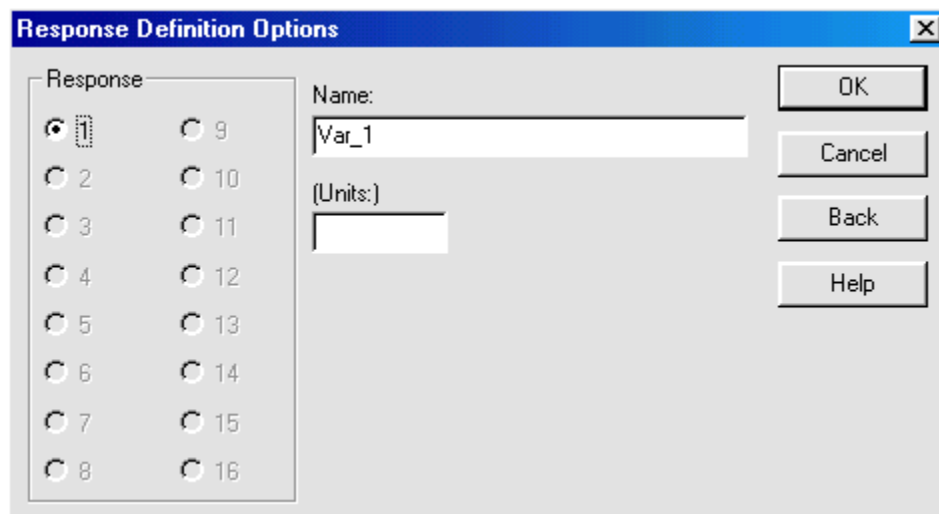

Figure 7-2. Response Definition Options Dialog Box
3. Click OK to display the Response Definition Options dialog box shown in Figure 7-2.